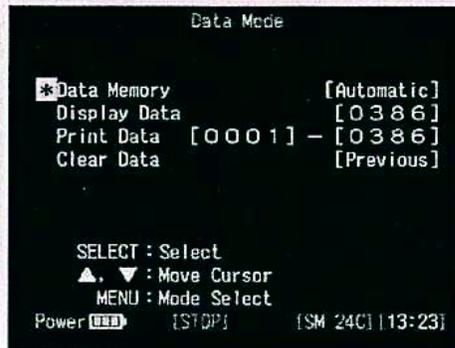

Figure 47. Data Mode Menu
1. From the MENU SELECT screen shown in Figure 46, choose DATA MODE and press <SELECT> to view the menu screen shown in Figure 47.
1. Move the cursor to DATA MEMORY as shown in Figure 47 and press <SELECT> to highlight the action block. (For detailed information on editing action blocks refer to Section 4.2)
1. From the DATA MODE menu shown in Figure 47, move the cursor to "Display Data". and press <SELECT> to highlight the numeric action block.
2. From the DATA MODE menu shown in Figure 47, choose PRINT DATA and press <SELECT> to edit the start and stop printing range.
1. From the DATA MODE menu screen shown in Figure 47, choose "Clear Data" and press <SELECT> to edit the action block.